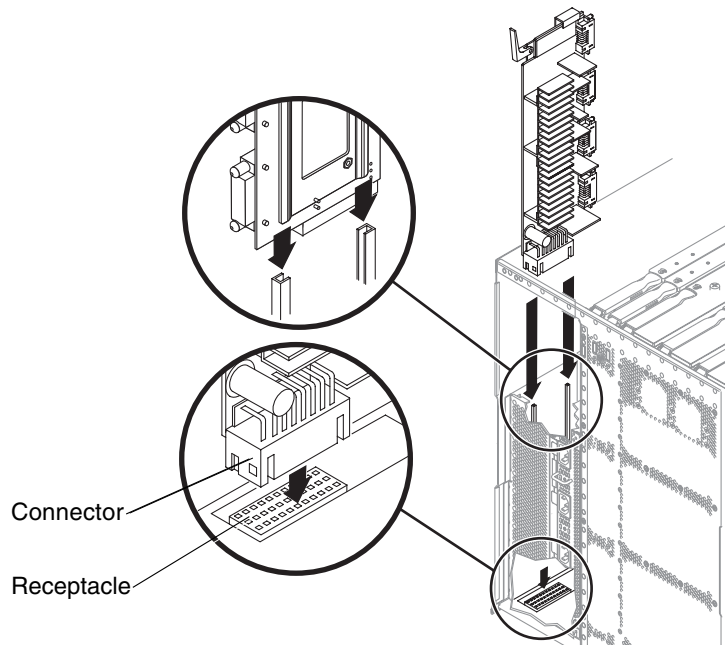

FIGURE 8-7 Inserting the Power Distribution Board
5. Align the power distribution board with the card guides. Gently slide it down to engage with the baseplane (FIGURE 8-7).